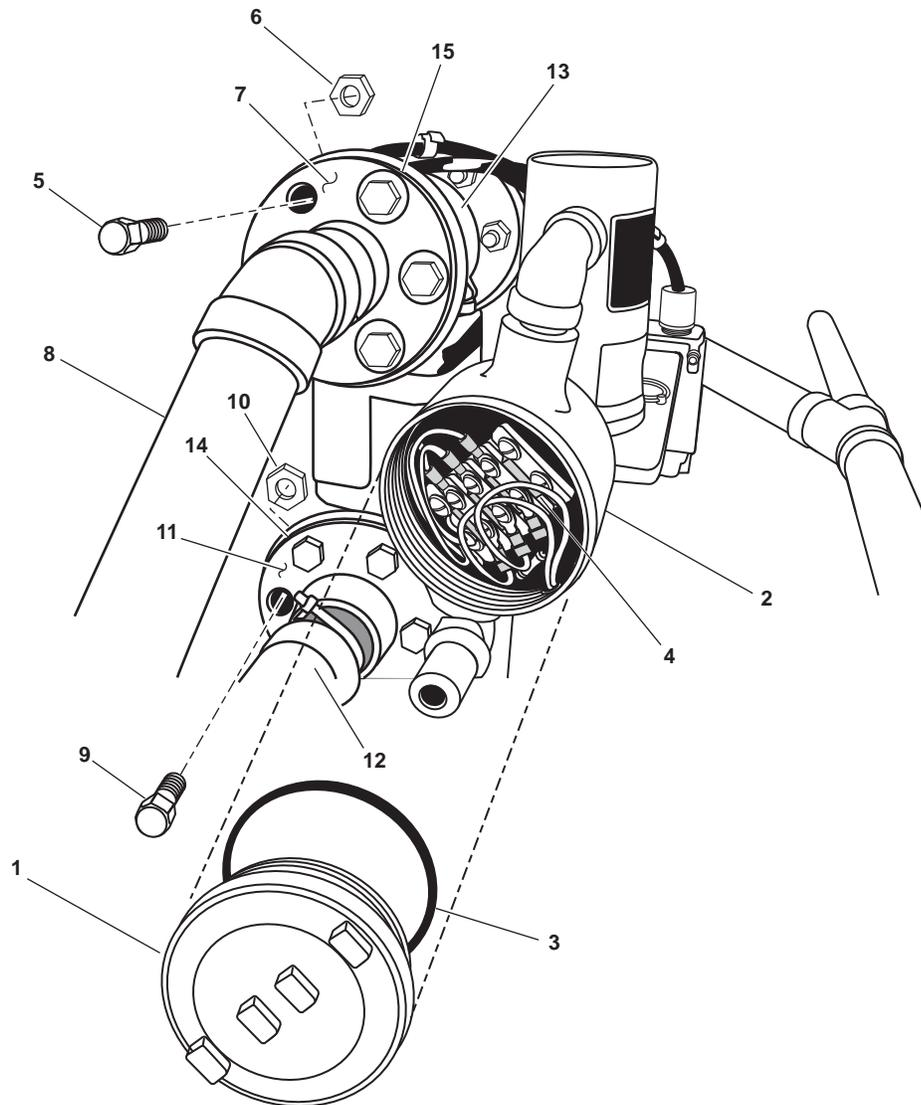
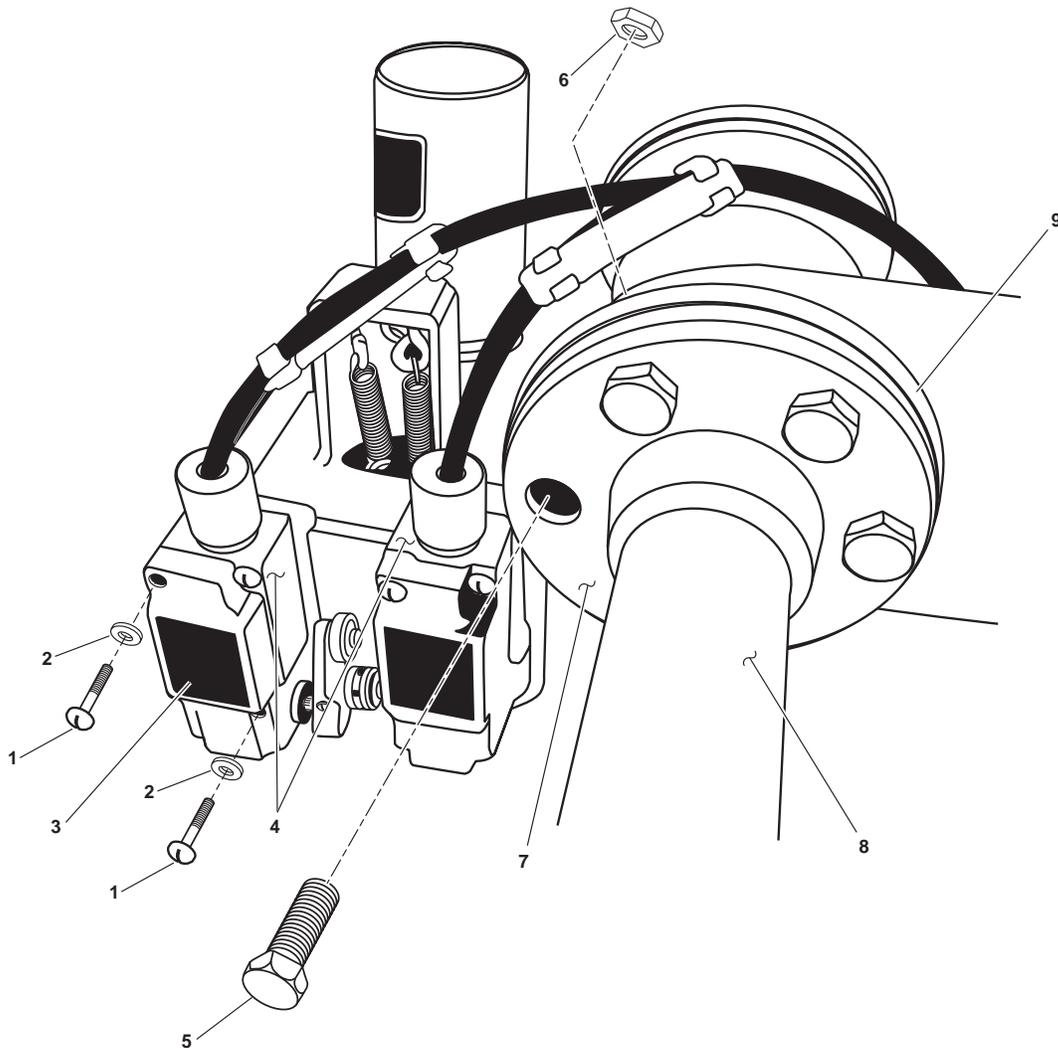

Figure 7. Diverter Solenoid Valve Junction Box
Figure 8. Diverter Solenoids
3. Unscrew the cover (figure 7, item 1) from the diverter solenoid valve junction box (figure 7, item 2). Remove and discard the gasket (figure 7, item 3).
4. Using a multimeter, check for voltage at the wire terminals (figure 7, item 4). If voltage is present, check to ensure that the proper circuit breaker is locked out and tagged out (FM 55-502). If no voltage is present, continue with the procedure.
5. Label and disconnect the wiring in the diverter solenoid valve junction box (figure 7, item 2).
6. Remove the two screws (figure 8, item 1) and two washers (figure 8, item 2) from the covers (figure 8, item 3) of the two solenoids (figure 8, item 4).
7. Remove the covers (figure 8, item 3) from the two solenoids (figure 8, item 4).
8. Label and disconnect the wiring in the two solenoids (figure 8, item 4).
9. Remove the 6 bolts (figure 7, item 5) and 6 nuts (figure 7, item 6) from the overboard discharge flange (figure 7, item 7) of the overboard discharge piping (figure 7, item 8).
10. Remove the 6 bolts (figure 7, item 9) and six nuts (figure 7, item 10) from the oily waste tank discharge flange (figure 7, item 11) of the oily waste tank piping (figure 7, item 12).
11. Remove the 6 bolts (figure 8, item 5) and the 6 nuts (figure 8, item 6) from the inlet flange (figure 8, item 7) of the OWS discharge piping (figure 8, item 8).
12. Remove the diverter solenoid valve (figure 7, item 13) from the overboard discharge piping (figure 7, item 8), the oily waste tank piping (figure 7, item 12), and the OWS discharge piping (figure 8, item 8).
13. Remove and discard the flange gaskets (figure 7, items 14, and 15) and (figure 8, item 9).
1. Position the diverter solenoid valve (figure 7, item 13) between the overboard discharge piping (figure 7, item 8), the oily waste tank piping (figure 7, item 12), and the OWS discharge piping (figure 8, item 8).
2. Install the new flange gaskets (figure 7, items 15 and 14) and (figure 8, item 9).
3. Install the 6 bolts (figure 8, item 5) and the 6 nuts (figure 8, item 6) in the inlet flange (figure 8, item 7) of the OWS discharge piping (figure 8, item 8).
4. Install the 6 bolts (figure 7, item 9) and six nuts (figure 7, item 10) in the oily waste tank discharge flange (figure 7, item 11) of the oily waste tank piping (figure 7, item 12).
5. Install the 6 bolts (figure 7, item 5) and 6 nuts (figure 7, item 6) in the overboard discharge flange (figure 7, item 7) of the overboard discharge piping (figure 7, item 8).
6. Connect the wiring to the two solenoids (figure 8, item 4) using the labels from step 6 of removal as a guide.
7. Install the covers (figure 8, item 3) on the two solenoids (figure 8, item 4).
8. Install the two screws (figure 8, item 1) and two washers (figure 8, item 2) in the covers (figure 8, item 3) of the two solenoids (figure 8, item 4).
9. Connect the wiring to the diverter solenoid valve junction box (figure 7, item 2) using the labels from step 3 of removal as a guide.
10. Install a new gasket (figure 7, item 3) on the cover (figure 7, item 1) of the diverter solenoid valve junction box (figure 7, item 2) and install it on the diverter solenoid junction box.